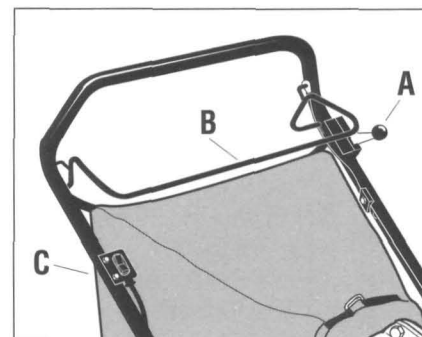

Figure 4-8: Gear Shift Lever (A), Wheel Drive Bail (B) and Engine ON/OFF Switch (C).
2. On the 5HP model, place the GEAR SHIFT LEVER in P (Park) and release the WHEEL DRIVE BAIL. See A and B, Figure 4-8.
3. Put the engine ON/OFF switch (C, Figure 4-8) in the ON position.